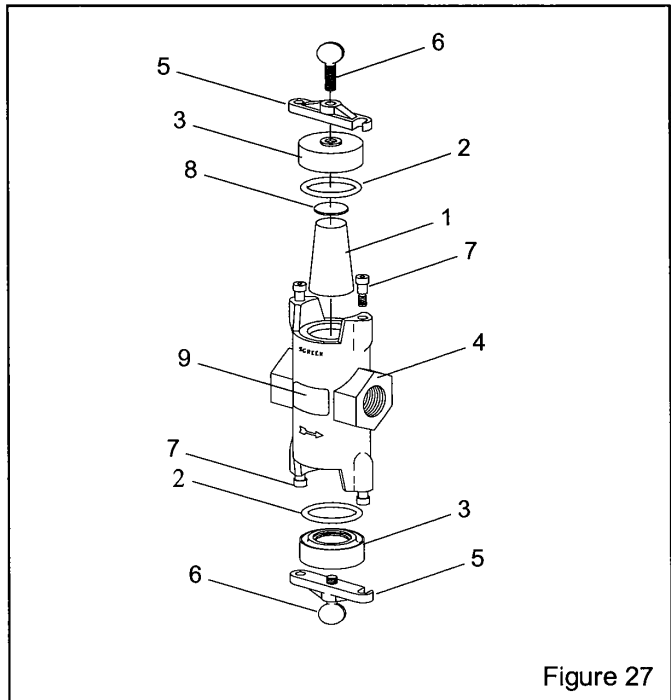

Figure 27
9.10 Abrasive Trap, Figure 27, Optional